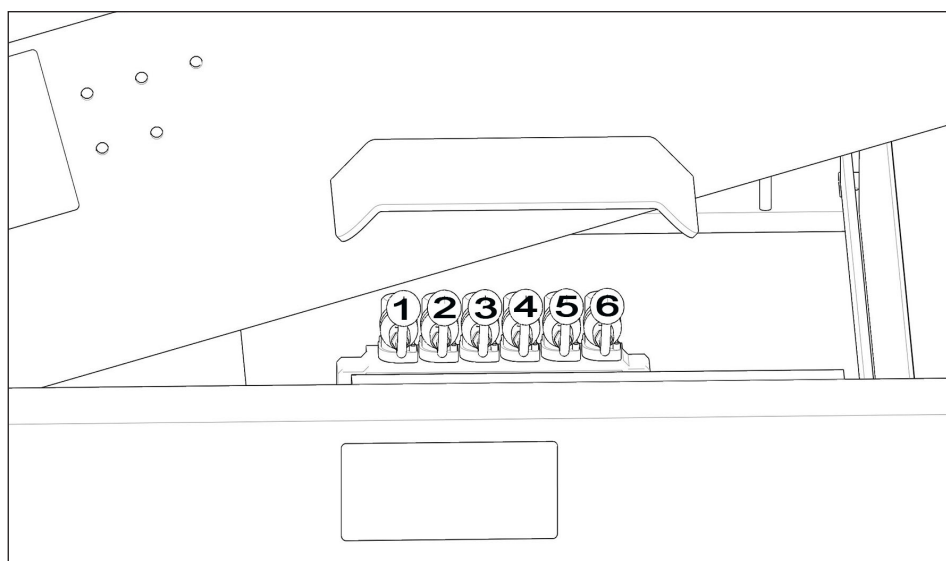

Figure 5.2 - Control Levers
2. Slide the feeder conveyor backward using lever (1) Figure 5.2.